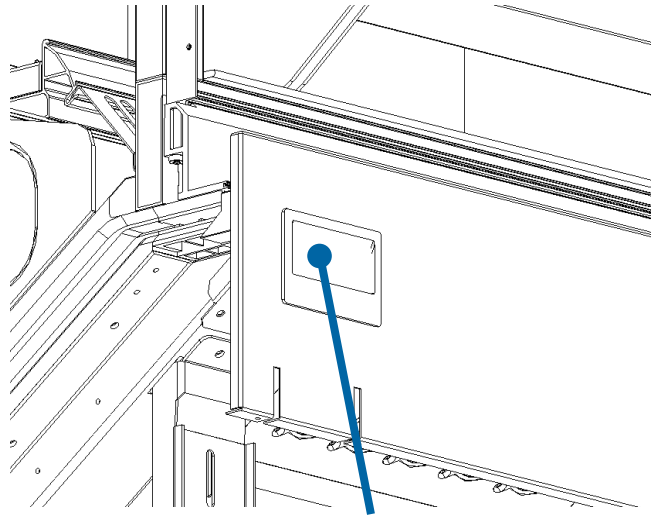

FIGURE 3R
3. Remove the people counters as shown in Figure 3R by pushing from the inside out. Slide counter through slot to ensure wires do not get caught when removing front panel.